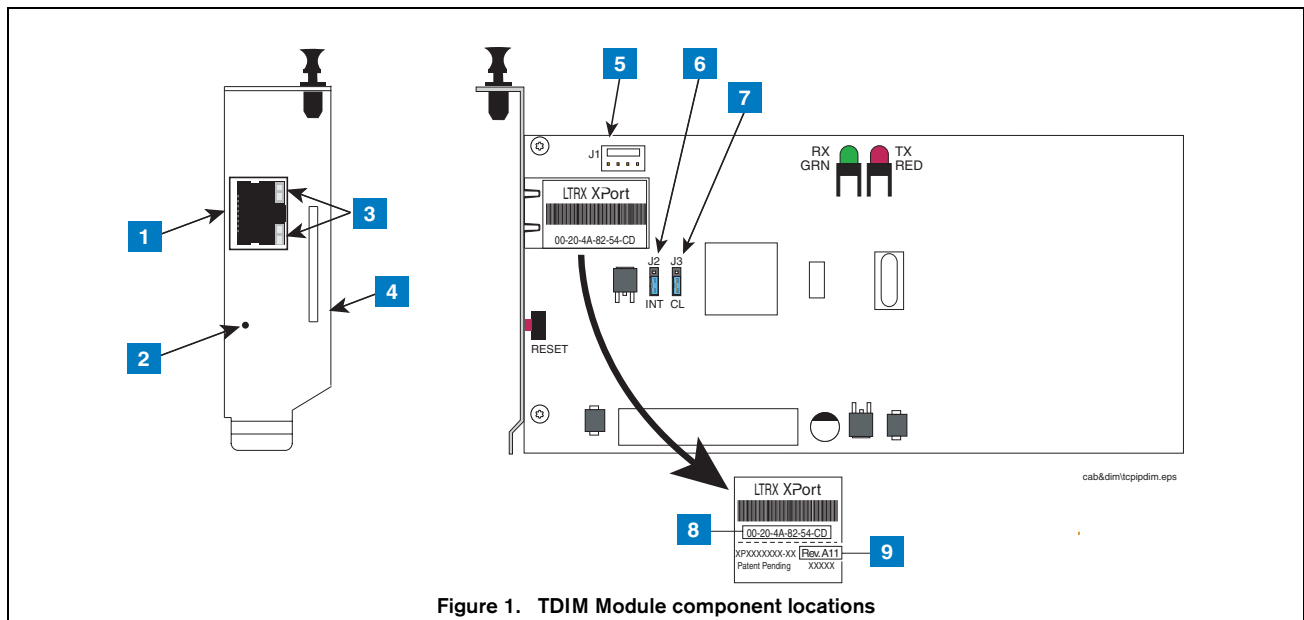

Figure 1. TDIM Module component locations
- Figure 1. TDIM Module component locations 3
Key components of the TDIM Module are shown in Figure 1.
Legend for numbered boxes in Figure 1
(where *y.y.y.y* is the IP address of the TDIM Module (see your network administrator) and *00-20-4A-xx-xx-xx* is the number from the label on the back of your TDIM Module [see Figure 1 on page 3]).